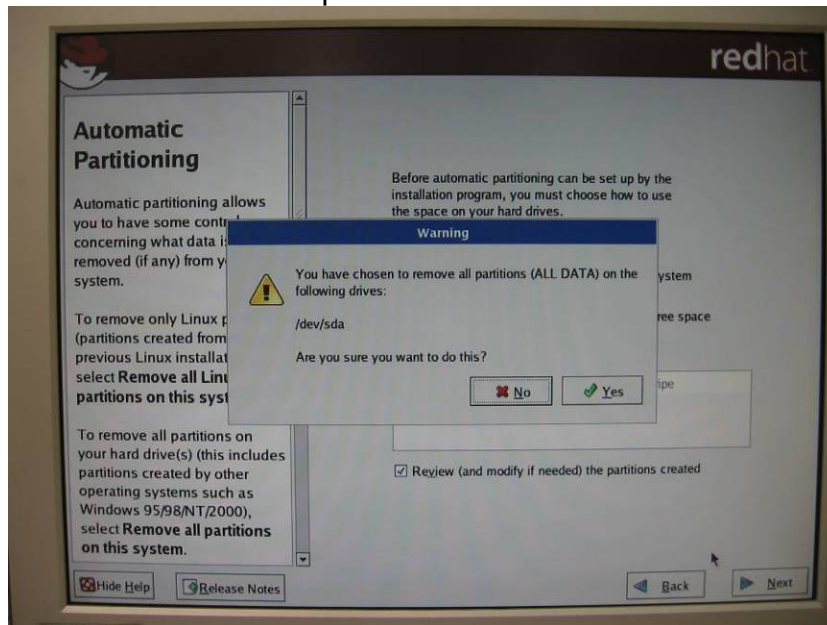

Figure 5-11 Automatic Partitioning (Warning)
1. On the Main page, change Quiet Boot to **[Disable]**. Set the System date and time. (Figure 5-11).